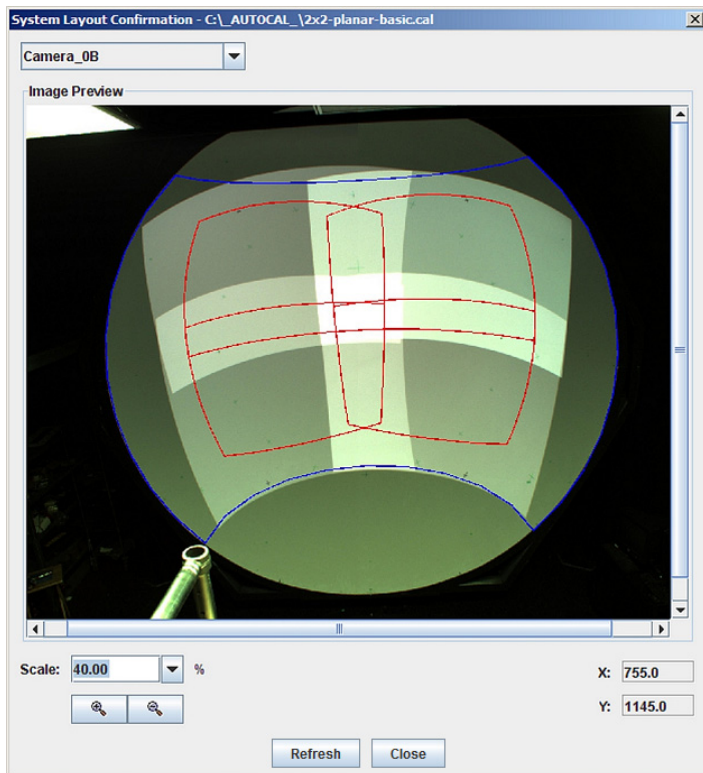

Figure 4-42 Confirm System Layout - 2x2 on Dome
Use this feature to validate that the calibration is setup as desired when a valid calibration file is loaded (Figure 4-42).
1. Click **Tools > Confirm System Layout**. Warping/blending is turned OFF, a white test pattern is displayed on all screens and a red bounding box is superimposed for each channel in the image (**Figure 4-42**). A blue bounding box represents the defined screen.